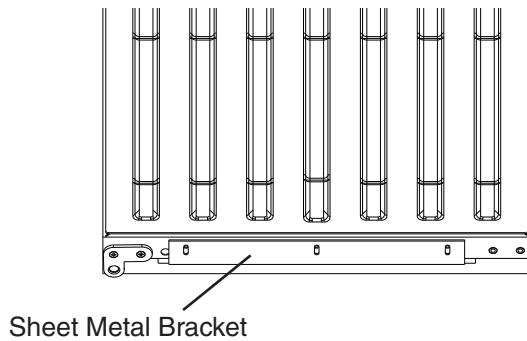

**Fig. 13**
- 1) Fasten the sheet metal bracket to the overlay panel using the two M4x8 truss head screws provided. **Snug the screws, but do not tighten.** See Fig. 13.